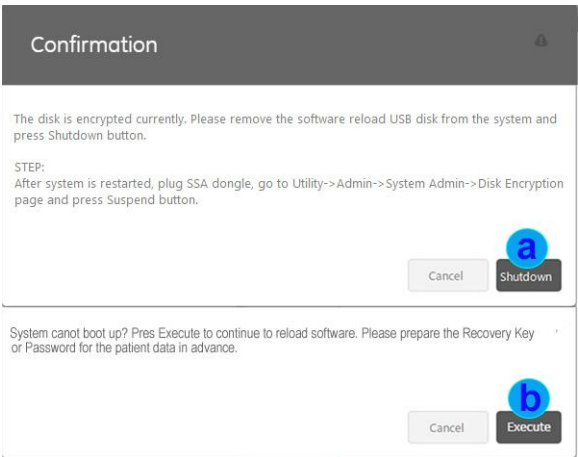

Figure 8-20. Confirmation Window 3
- If the disk needs to be suspended, a confirmation window will pop out as Figure 8-20.